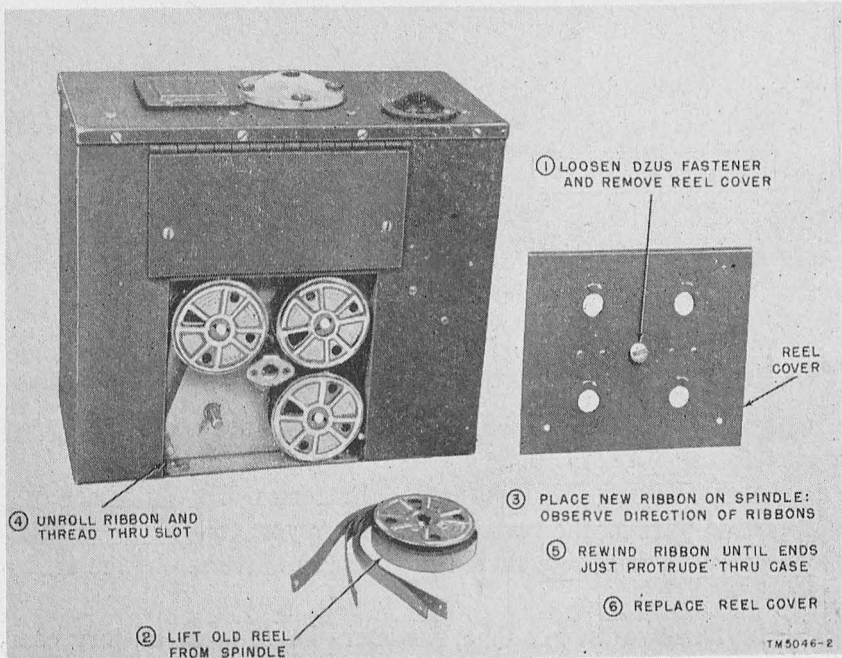

Figure 3. Changing counterpoise reels.
- (1) Inspect the tubes and the vibrator. Remove the screws around the edges of the top panel which keep it fastened to the transmitter case. Lift the top panel and the attached transmitter assembly from the case and detach the battery plug J104 from male jack J105. Make certain that the tubes are installed in the proper sockets, that the tube clamps are fastened tightly, and that the vibrator is in place.
- (2) Inspect the counterpoise reels. Loosen the Dzus fastener in the center of the counterpoise reel cover plate and remove the cover plate as shown in step ① of figure 3. The reel tool that is secured to the under side of the carrying case cover fits this fastener. Make certain that the counterpoise ribbons are threaded through the proper channels and that all four reels are in place. The ends of the ribbons should protrude from the case so that they may be easily grasped at the time of installation.
- (3) Inspect the stakes and the guy cords. Unpack the three guy cords located in the pockets on the antenna assembly bag and check the loops at the snap hooks. Make certain that the three guy stakes and the three reels which hold the three guy cords are in place and ready for use.
- (4) Inspect the antenna mast assembly. Remove the antenna mast assembly from the antenna bag and make certain that each section works smoothly and locks positively when in the erected position.